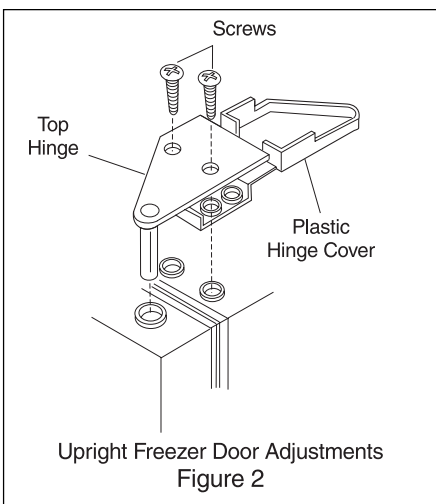

Figure 2
4. At the top of the cabinet, lift up plastic hinge cover, and fold back. (Figure 2)
- **On chest models** with a defrost drain, place a shallow pan or the Divider/Drain Pan (some models) beneath the drain outlet (Figure 2). A  $\frac{1}{2}$  inch garden hose adaptor can be used to drain the freezer directly into a floor drain (Figure 3). Pull out the drain plug inside the freezer, and pull off the outside defrost drain plug (Figure 4).